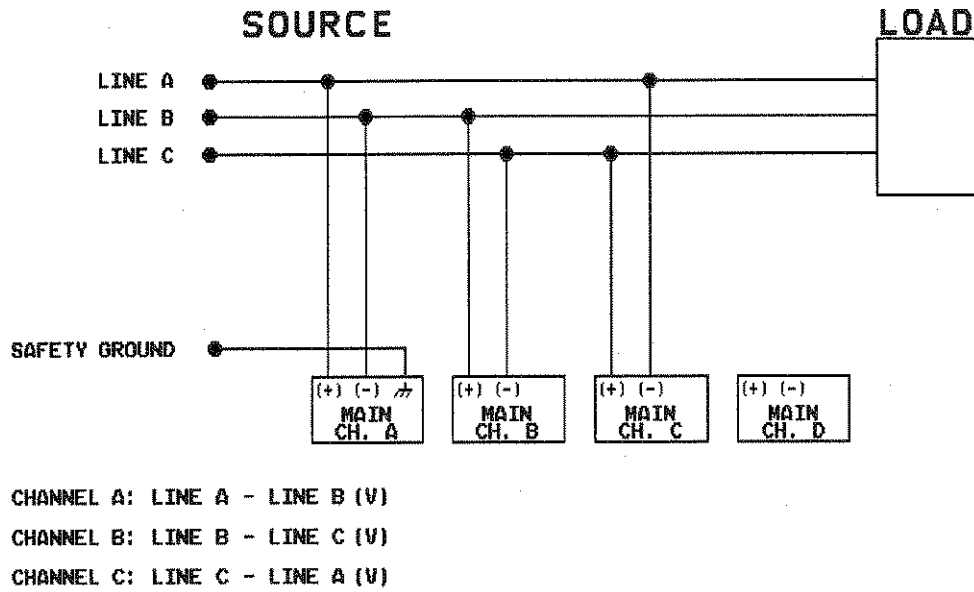
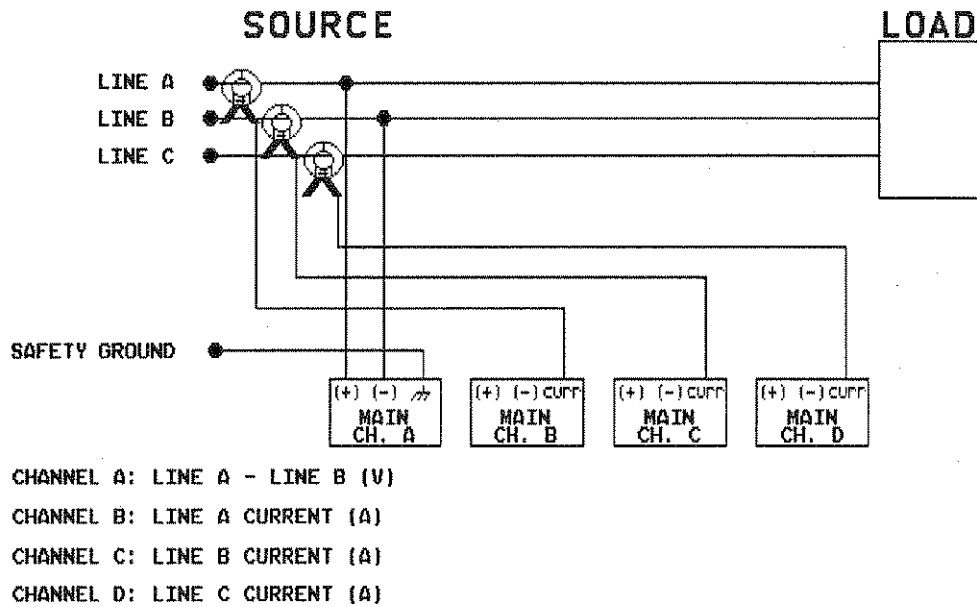

FIGURE 2-6. THREE PHASE (3 $\phi$ ) "DELTA" CONNECTIONS
FIGURE 2-7. THREE PHASE (3 $\phi$ ) "DELTA" CONNECTIONS WITH CURRENT INPUTS (656A ONLY)
- The 656 can monitor Line A-to-Line B, Line B-to-Line C, and Line A-to-Line C voltages in a 3 $\phi$  "delta" system (illustrated in Figure 2-6). This application would use three of the four Main channels (channels A, B, and C in the illustration). With the 656A, you could also monitor 3 $\phi$  current on channels B, C, and D while using channel A as the synchronization channel (illustrated in Figure 2-7).